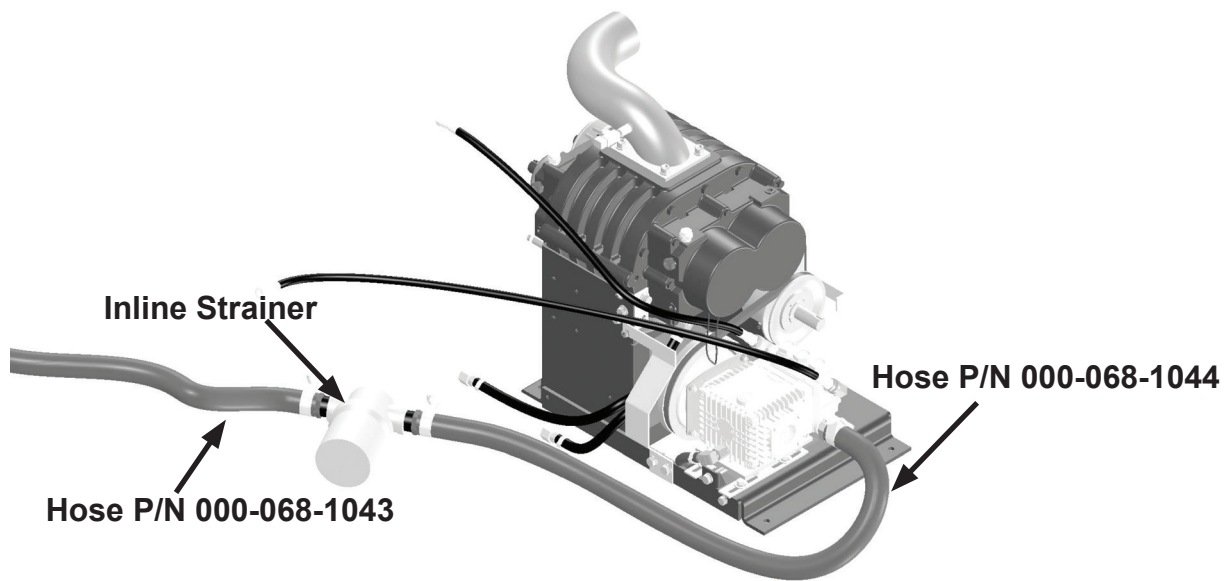

Figure 30. Connect Inline Strainer to Hoses
10. Locate the Inline Strainer (P/N 000-049-200 - Figure 30).